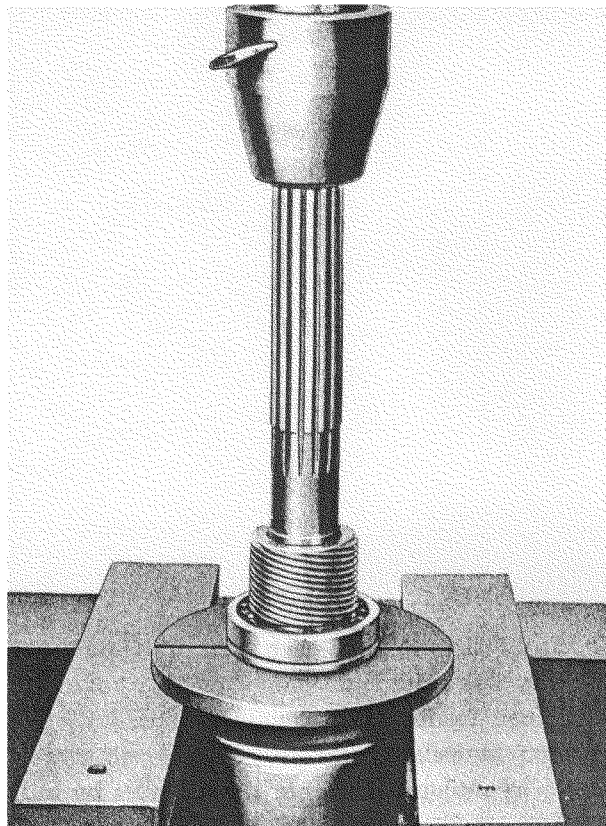

Fig. 33—Removing Speedometer Drive Gear
9. Support front face of bearing and tap end of shaft to start speedometer drive gear off shaft. If necessary to use arbor press to start gear (fig. 33) do not press shaft more than